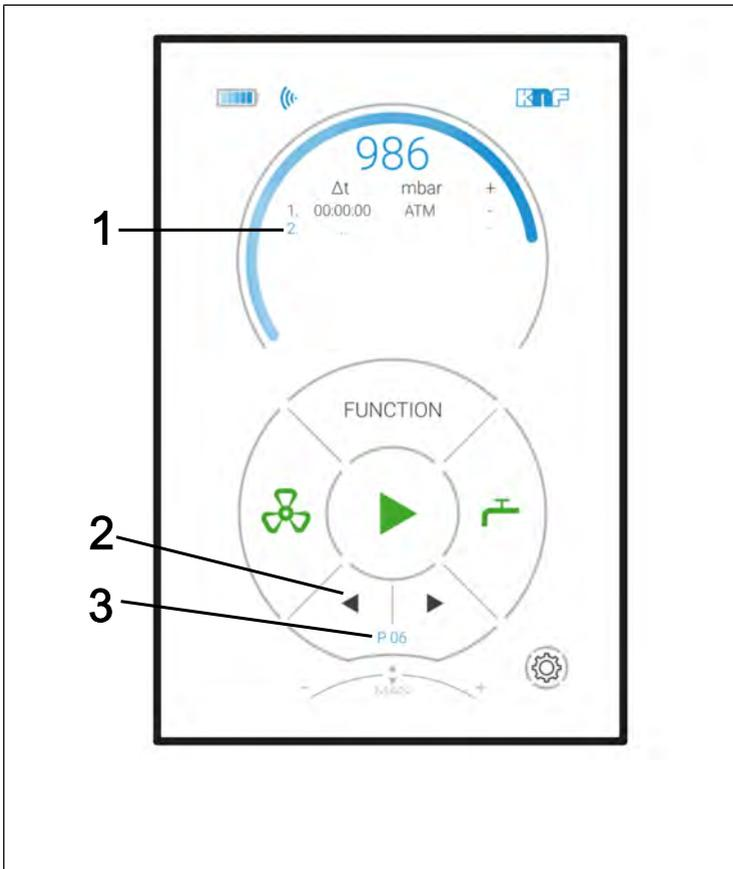

Fig.21: Menu in Function mode
Row selection (see Fig. 21):
→ Press the button for reference point table selection (arrow in Fig. 21/2) and select the desired reference point table. The reference point table saved with that number is now visible.
**i** Up to 10 different reference point tables can be saved and called up again as needed. The number in the display (Fig. 21/3) shows the currently selected reference point table.